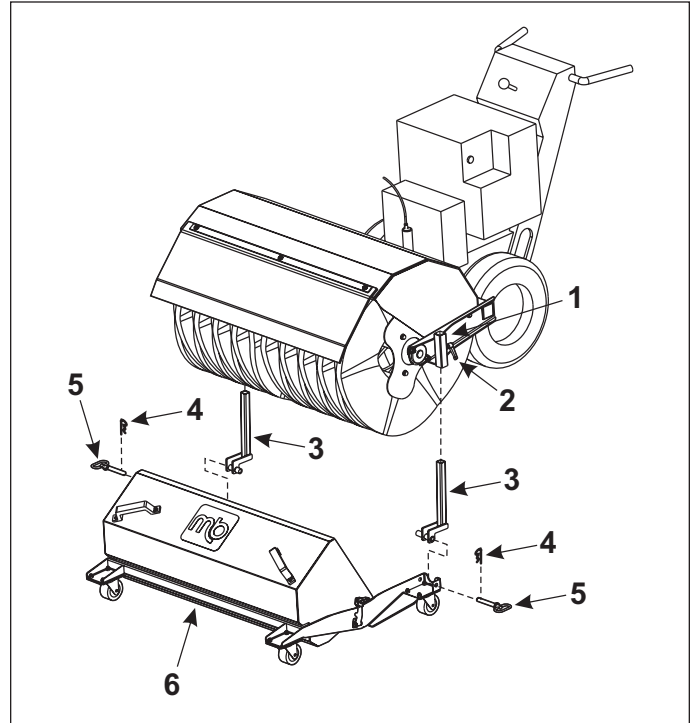

Figure 24. Debris Box Installation
- c. Position the deflector (7) and upper support strap (8) over the broom hood and deflector strap assembly. Secure the deflector through the second hole at the top of the deflector strap and broom hood using one bolt (9), washer and nut (5).
2. Raise and support the broom head assembly about 2" off the ground. Loosen the standard caster assembly by loosening the locking lever (2, Figure 24) and remove the caster assemblies. **NOTE:** Save the standard casters for future use.
3. Position the debris box assembly (6) in-front of the power broom.
4. Remove hitch pin (5), releasing debris box mounting tubes (3).
5. Raise the power broom upwards and insert the mounting tubes (3) through the mounting brackets (1) on the broom frame.
7. Insert hitch pin (5) to secure the broom assembly to the debris box. Install hairpin cotter pin (4) to secure the hitch pin.